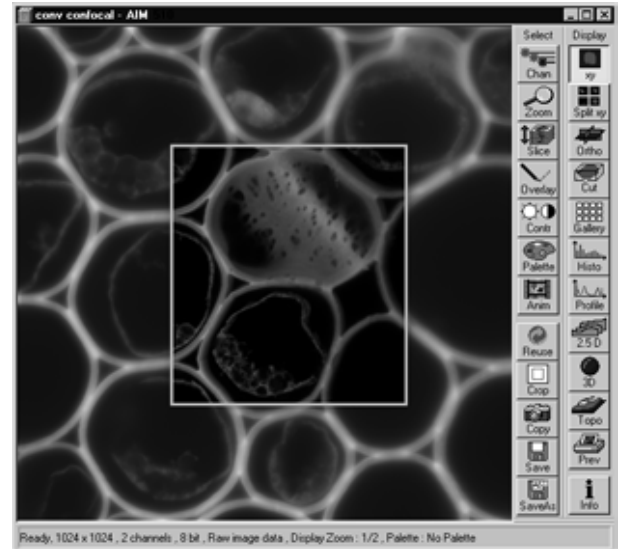

Fig. 4-310 Image Display window with confocal ROI
- The influence of the aperture size on image creation is shown by the example in Fig. 4-310. The entire image was first scanned with too large a aperture size. The aperture size was then optimized for a defined ROI. This considerably improved the display of the specimen structures.